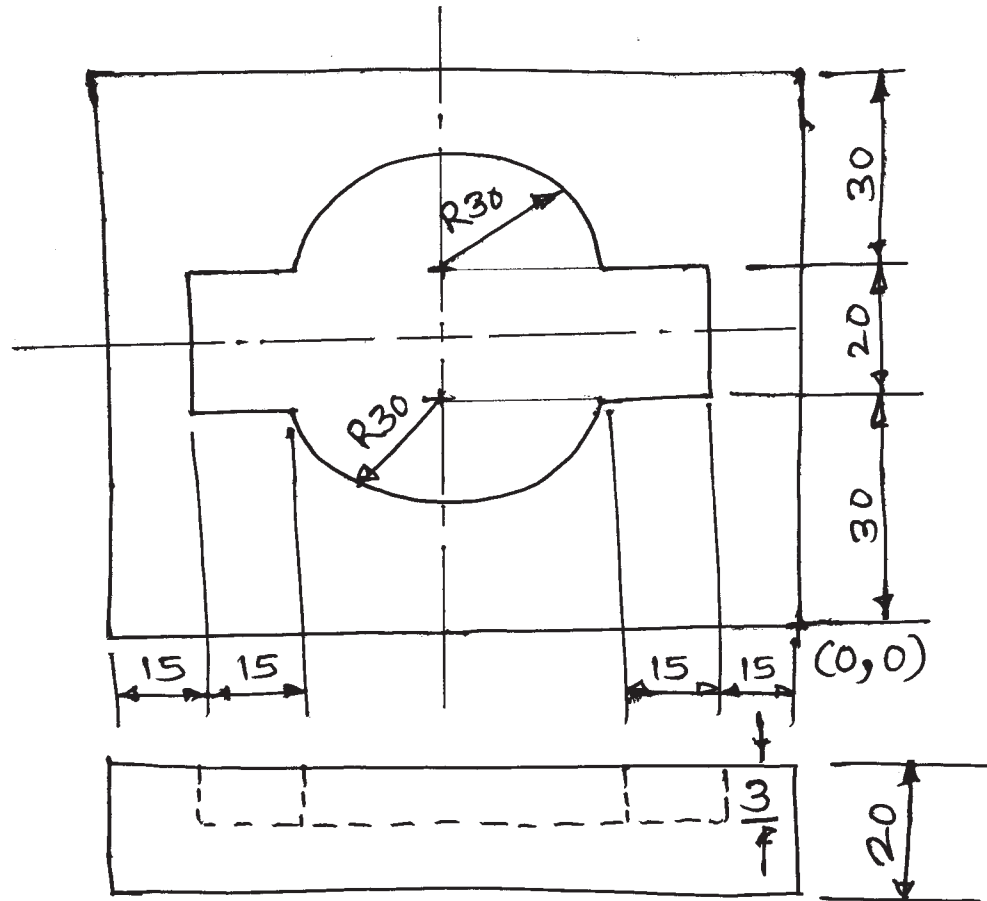

Fig. No. 3
- c) Prepare the Part Program for the workpiece shown in Fig. No. 3